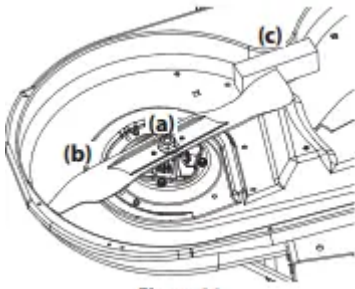

Figure 46
2. Use a 15/16" wrench to hold the hex nut on top of the spindle assembly when loosening the hex nut (a) securing the blade (b). A block of wood (c) may be placed between the deck housing and the cutting edge of the blade (b) to help in breaking loose the hex nut (a) securing the blade. See Figure 46.